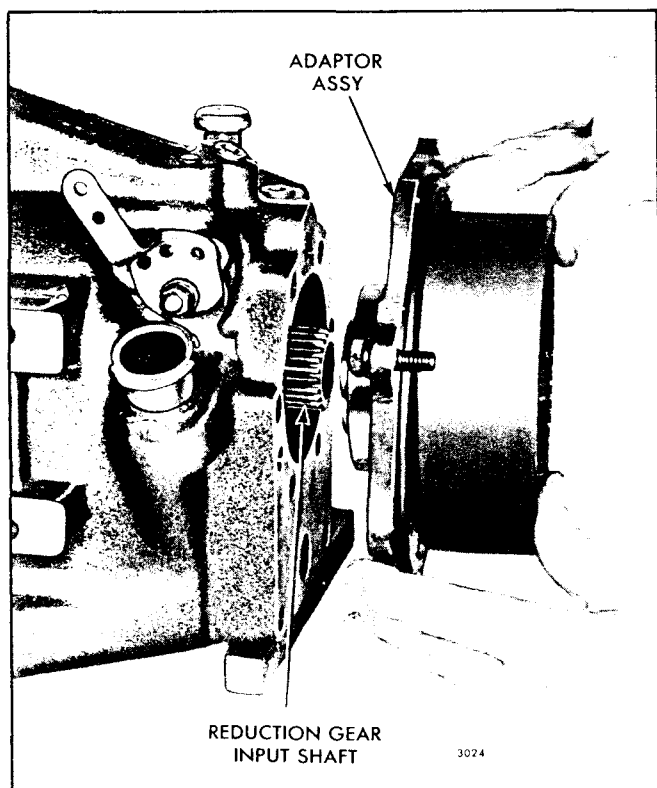

Fig. 92 - Installing Reduction Gear Adaptor, Input Gear, Ring Gear and Bearing Assembly to Reverse Gear Housing (1.5:1 Ratio)
- j. On the reverse gear assembly incorporating the oil filler tube, install a 3/8" -16 reduction gear housing adaptor to gear housing bolt and lock washer in the bolt hole of the adaptor adjacent to the oil filler tube (Fig. 92).
- k. Lubricate the outside diameter of the reduction gear input gear bearing with engine oil; then, start the hub of the input gear straight on the end of the reduction gear input shaft as shown in Fig. 92 with the splines of the gear and shaft in alignment. Push the assembly straight forward on the input shaft and enter the bearing straight into the bearing bore in the reverse gear housing, then continue to push the assembly forward until the bearing seats on the shoulder in the gear housing.